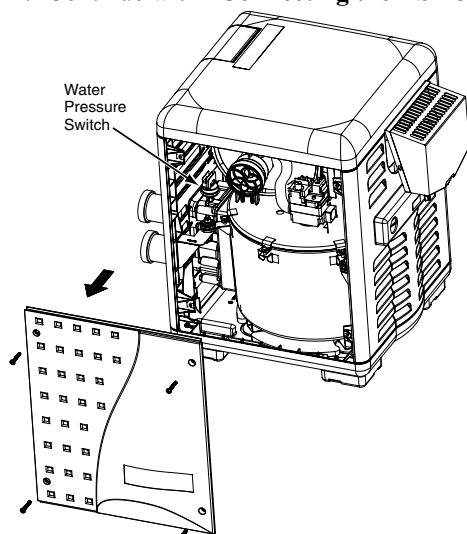

Figure 33.
1. Remove the four corner wing nuts that secure the top panel. Lift the top panel upward to remove the top panel. Note: If needed, remove the wires from the control board if the top is removed completely. **See Figure 33.**
9. Secure the panel with the two (2) retaining screws. Close the front door and secure with the latch. See Figure 33 on page 37.